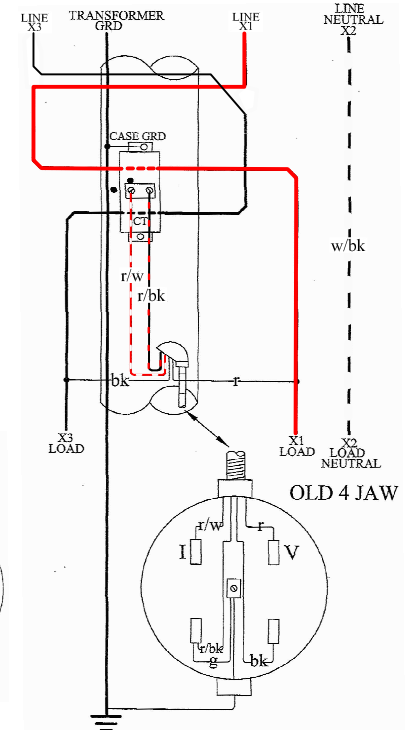
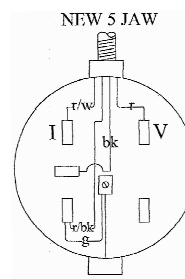

FIG. 2
FIG. 1
3. REFER TO FIGURE 1 FOR 5 JAW & FIGURE 2 FOR 4 JAW APPLICATIONS